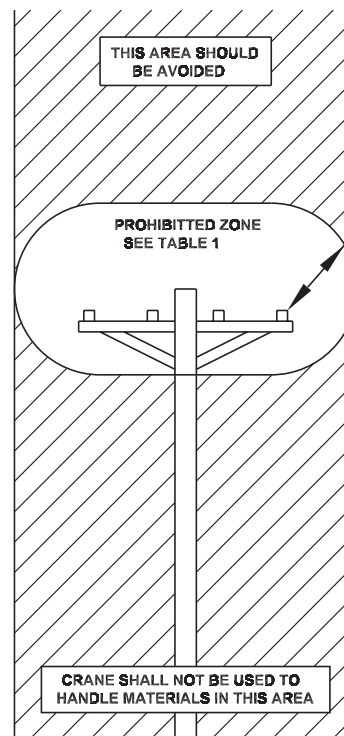

Figure 1
14. When operated near electric power lines, no part of the crane or load enters into danger zone shown in Figure 1.